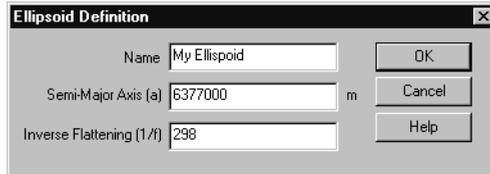

Figure 9.2. Ellipsoid Definition Dialog Box
2. In the **Ellipsoid Definition** dialog box, Figure 9.2, enter the name for the new ellipsoid, the semi-major axis, and the inverse flattening.